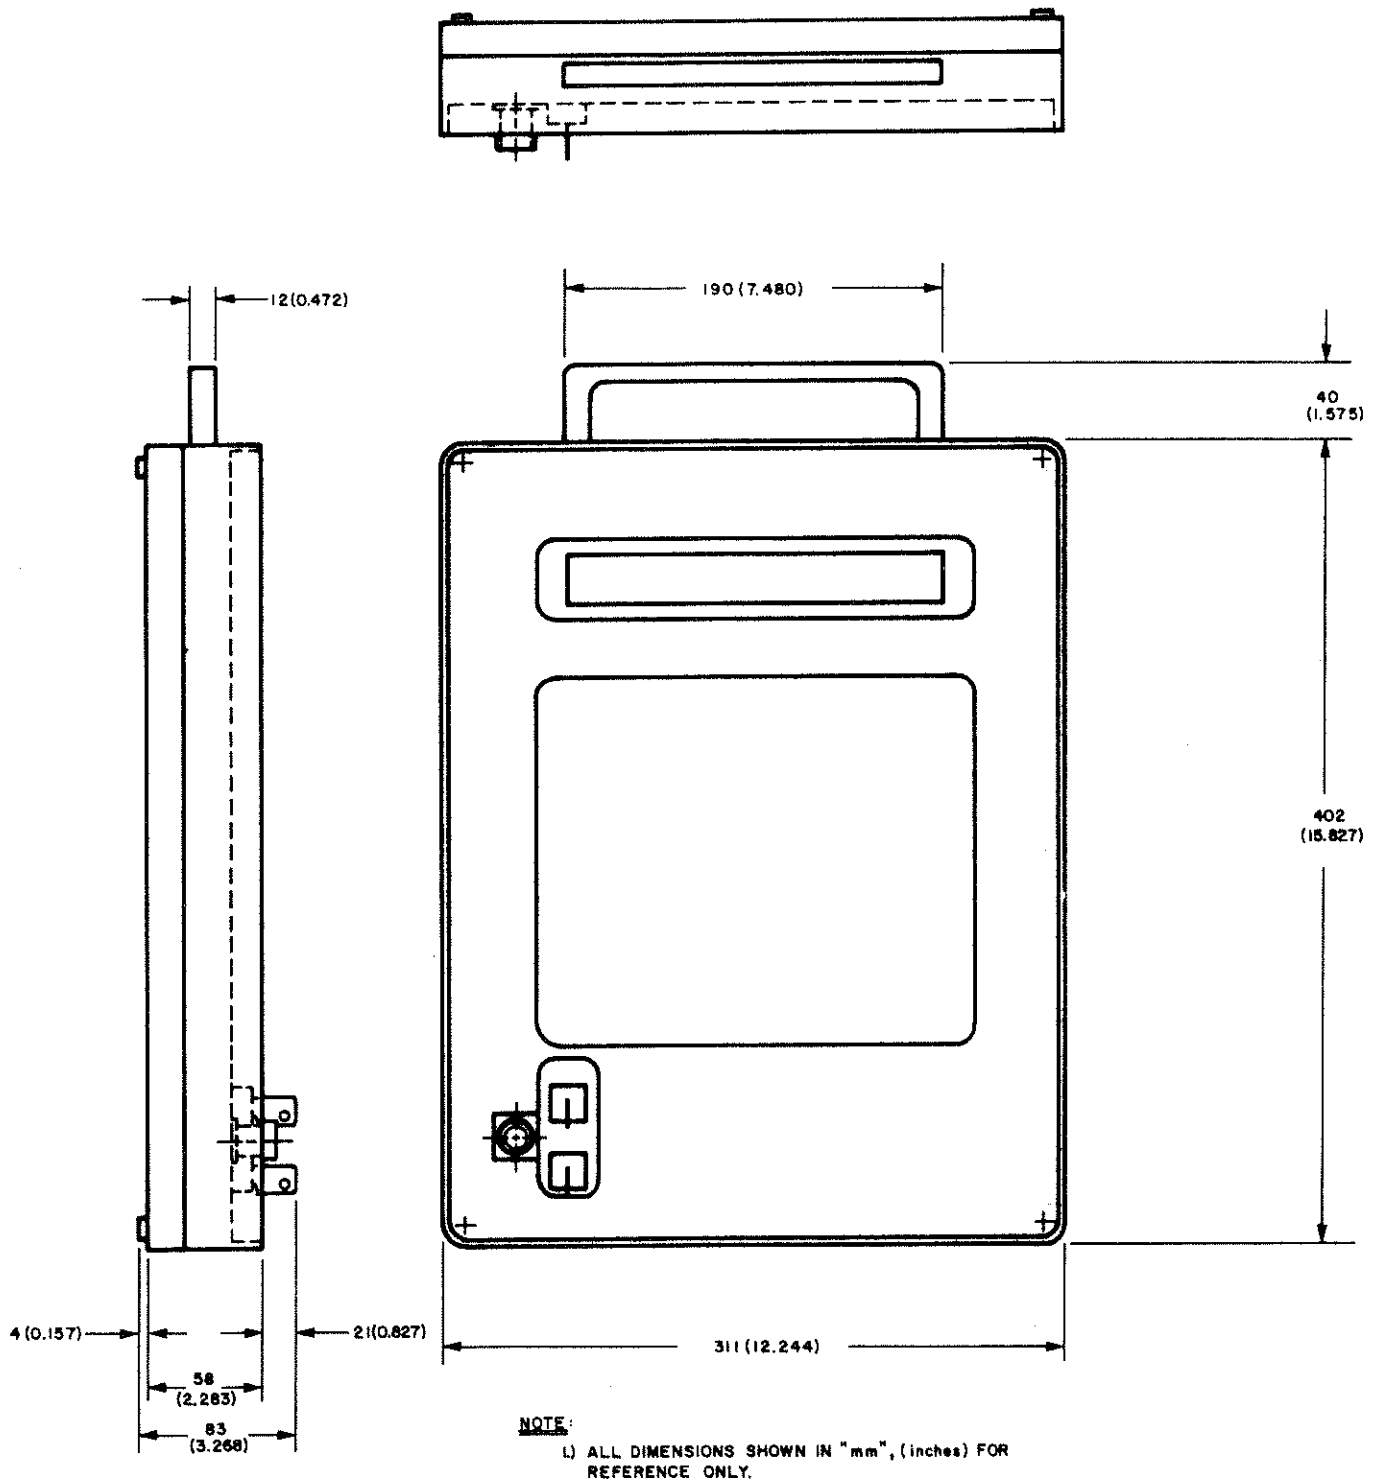

Figure 7-3. TAM-2 (Portable TAM) Outline Drawing
- * Figure 7-3. TAM 2 (Portable TAM) Outline Drawing